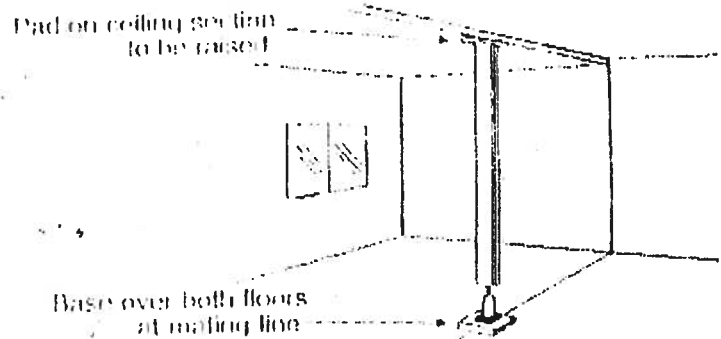

FIG. 5-8
7. Prior to interconnecting the ridge beam halves, examine the ridge beam ends. Should there be a slight misalignment, it can be eliminated by placing a jack under the low side of main beam on one half and use the jack to raise the beam. The alignment can be held by properly bolting or lag screw the beam halves together. See Fig. 5-8.